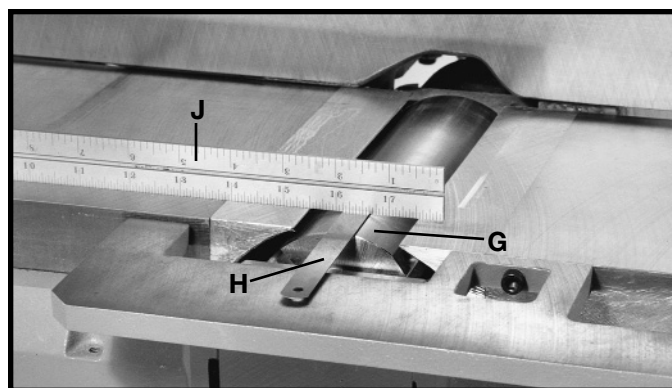

Fig. 52
9. Carefully rotate the cutterhead (G) Fig. 52, until the round portion of the cutterhead is on top as shown.
10. Place a .015" feeler gage (H) Fig. 52, on the cutterhead and using a straight edge (J) on the rear table adjust the height of the rear table until it is .015" above the cuttinghead diameter, as shown.